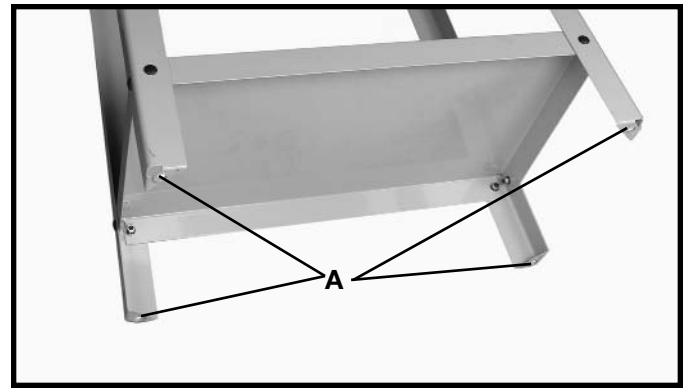

Fig. 16
IF DURING OPERATION THERE IS ANY TENDENCY FOR THE SHAPER TO TIP OVER, SLIDE OR WALK ON THE SUPPORTING SURFACE, THE SHAPER MUST BE SECURED TO THE SUPPORTING SURFACE. HOLES (A) FIG. 16, ARE PROVIDED IN THE SHAPER LEGS FOR MOUNTING.